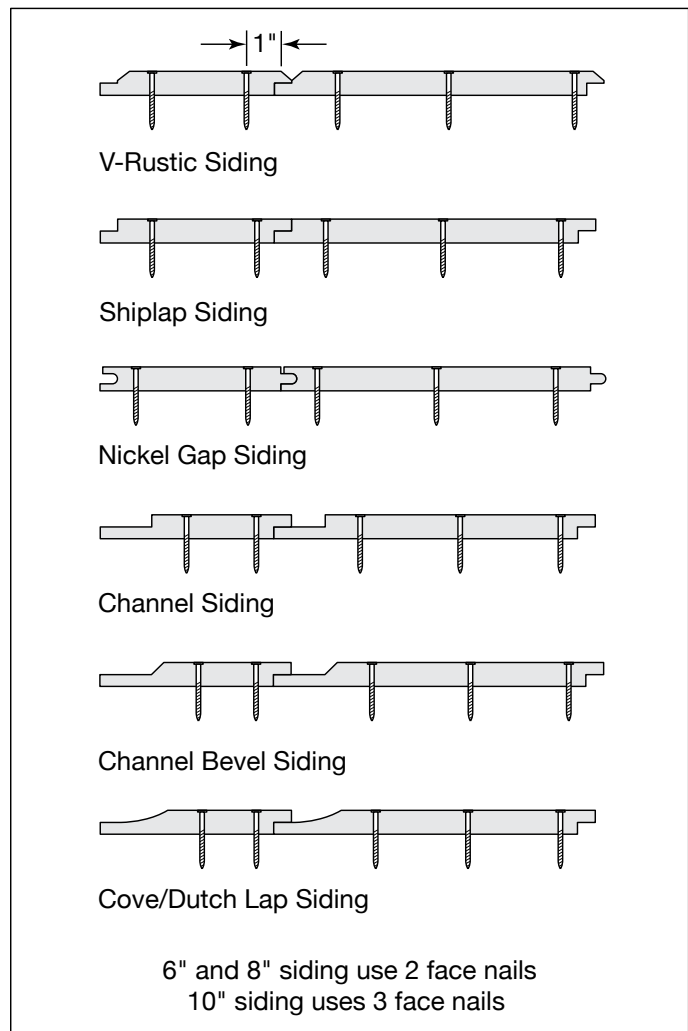

Fig. 4b
- For 10" profiles use 3 fasteners per every framing member. At least two fasteners should be through the face of the profile (**Fig. 4b**).